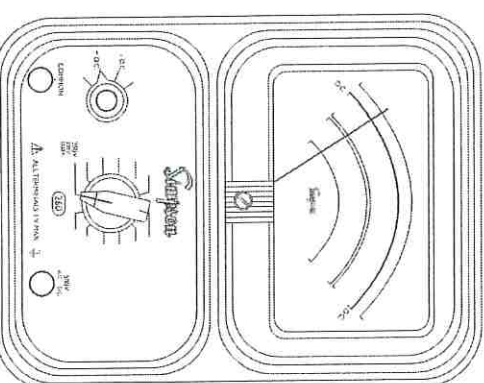

FIGURE 4-2. Jacks and Switch Positions for Measuring DC Voltage, 0-500V Range
- Set the function switch at +DC (Figure 4-2).